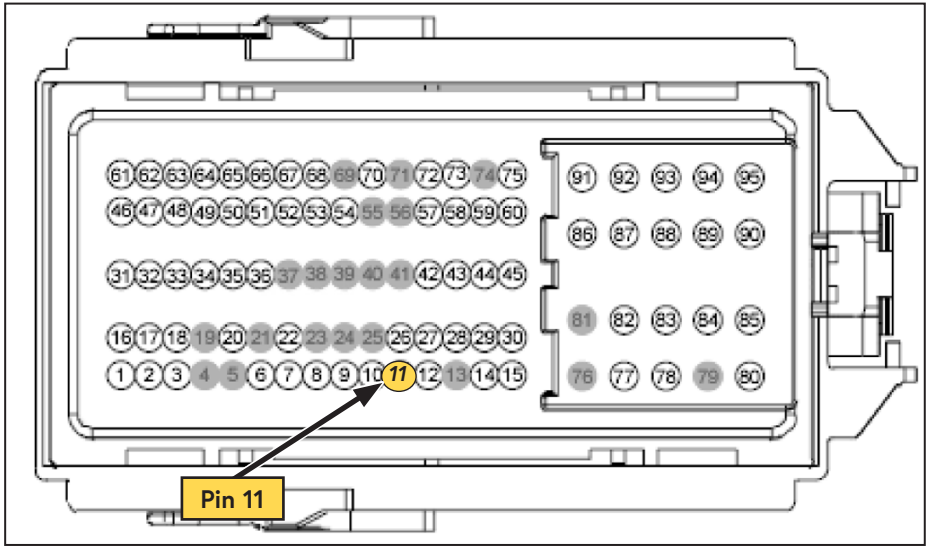

Figure 68 — C1551E electrical connector
- Locate the yellow wire with the purple stripe at pin 11 (Figure 68).